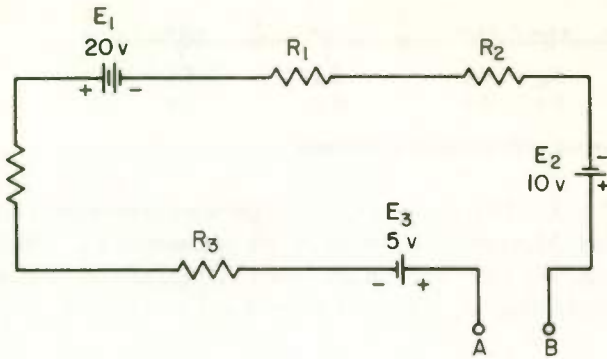

Fig. 31
1. The sum of the voltages across R_1 , R_2 , and R_3 in Fig. 31 is (a) _____ volts. The voltage between terminals A and B in Fig. 31 is (b) _____ volts. The voltage at B is (c) *(positive) (negative)* with respect to the voltage at A
2. The circuit of Fig. 31 is sometimes called an open loop to distinguish it from a closed loop that contains a complete path for current flow. When the voltage across points A and B is known, the circuit can be treated as a closed loop. Start at point A and walk around the circuit. Write the sum of the voltage rises and the sum of the voltage drops. Treat the voltage between A and B as a rise or drop, depending upon your answer to Problem 1. Show that the voltage rises equal the voltage drops.